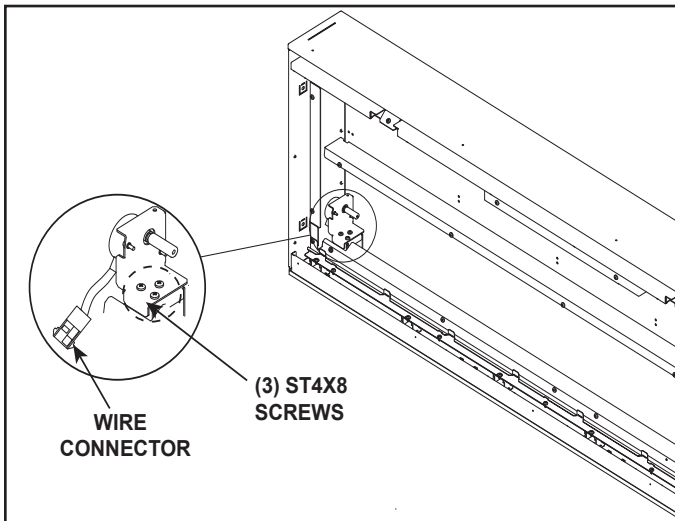

Figure 22 Motor Removal
1. Remove three (3) ST4X8 screws on the Motor Bracket. See Figure 22.